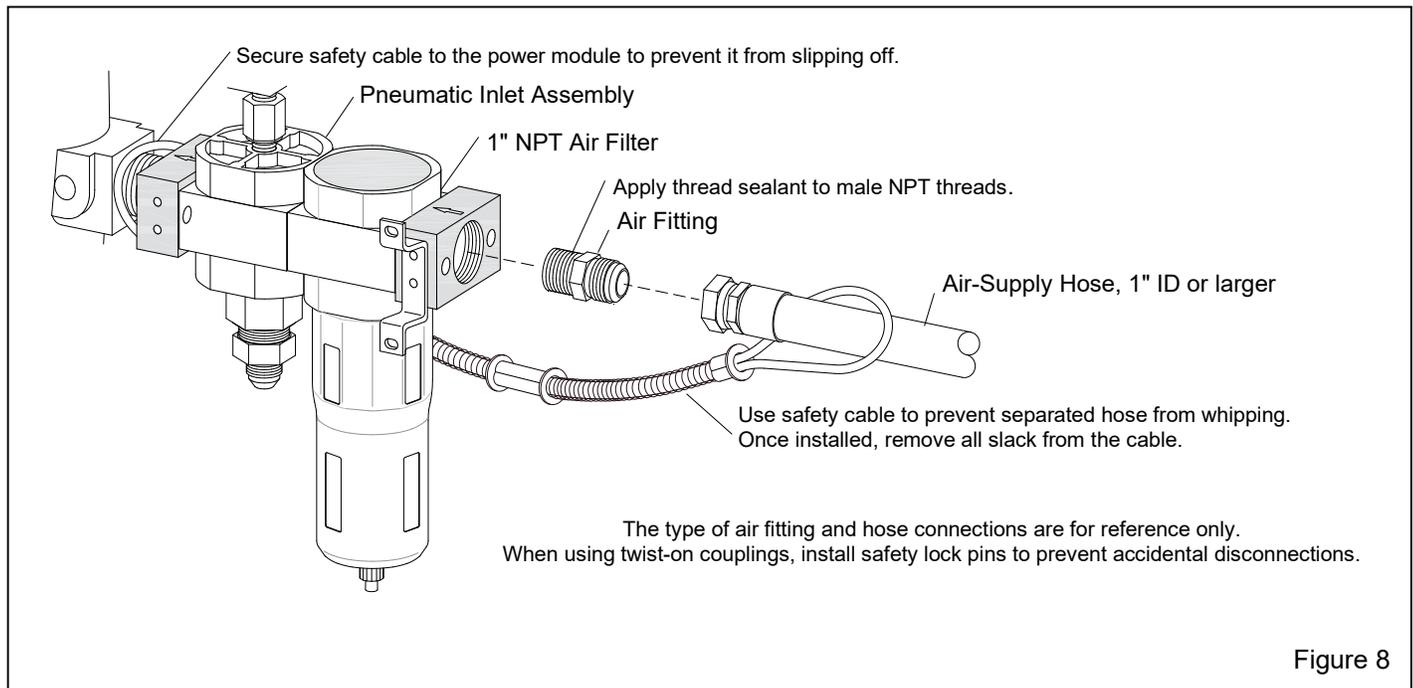

Figure 8
### 2.3 Connect Compressed-Air Supply Line Figure 8
2.3.2 Apply thread sealant to the male threads of an air fitting that is compatible with the air-supply hose fitting, as noted in Section 2.3.3, and install it onto the 1" NPT air filter (pneumatic inlet assembly) located at the blast machine inlet, as shown in Figure 8. The style of connection shown is for reference only.